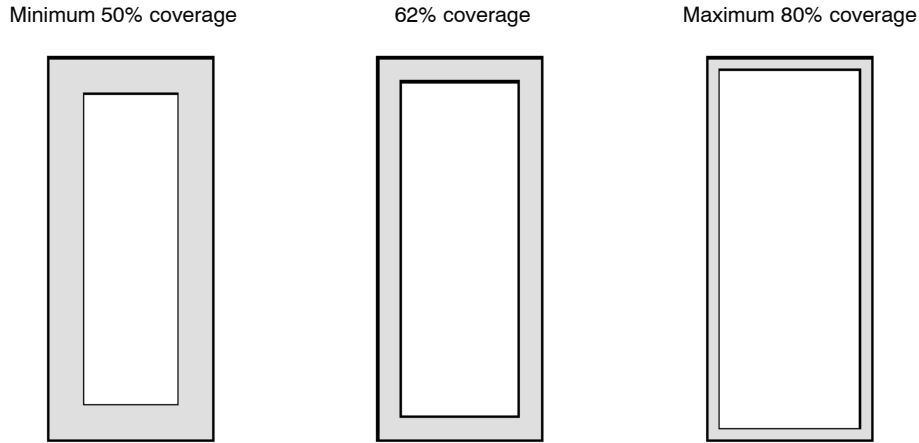

Figure 11. Solder Paste Application on Pins
4. The aperture opening for the signal pads should be between 50–80% of the QFN pad area as shown in Figure 11.